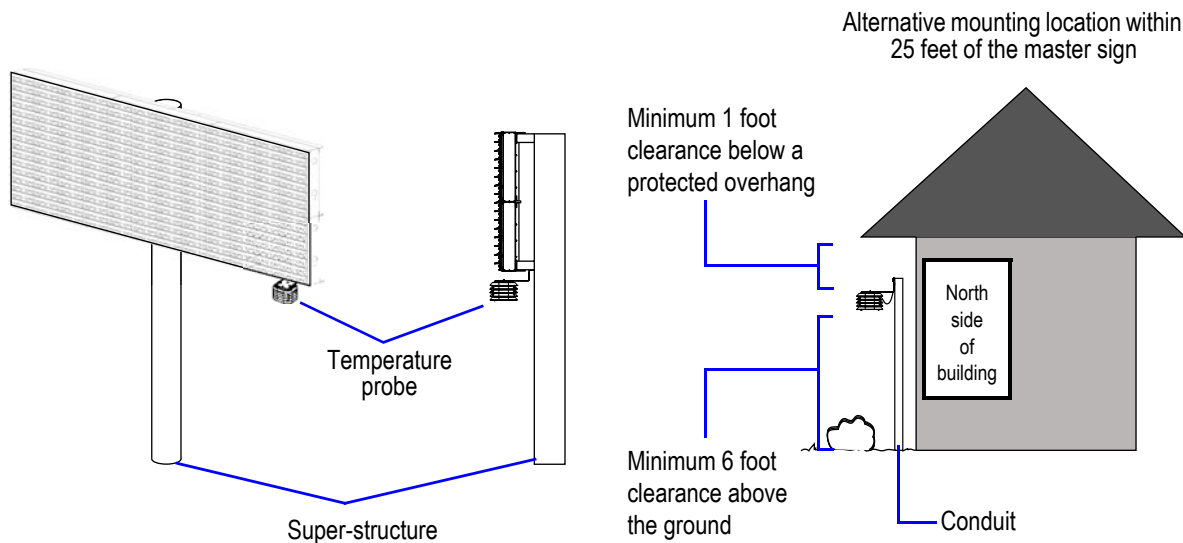

Figure 34. Possible temperature probe mounting locations.
- Vents on the temperature probe **must** point downward. See Figure 34 on page 38 for proper orientation.